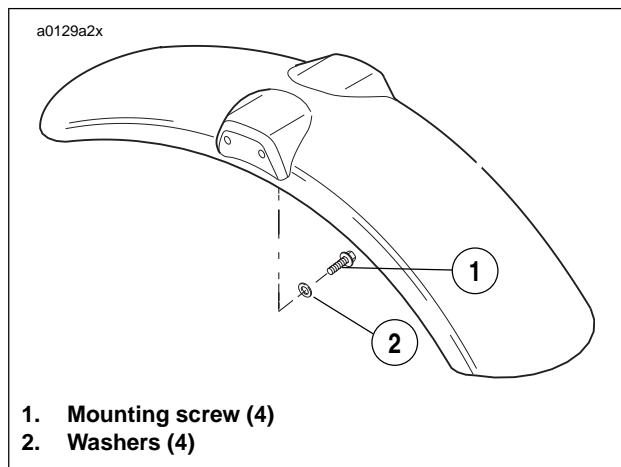

Figure 2-106. Front Fender Assembly Mounting Screws
3. See Figure 2-106. Remove four lower fender mounting screws.
4. See Figure 2-106. Install front fender with four fender mounting screws.